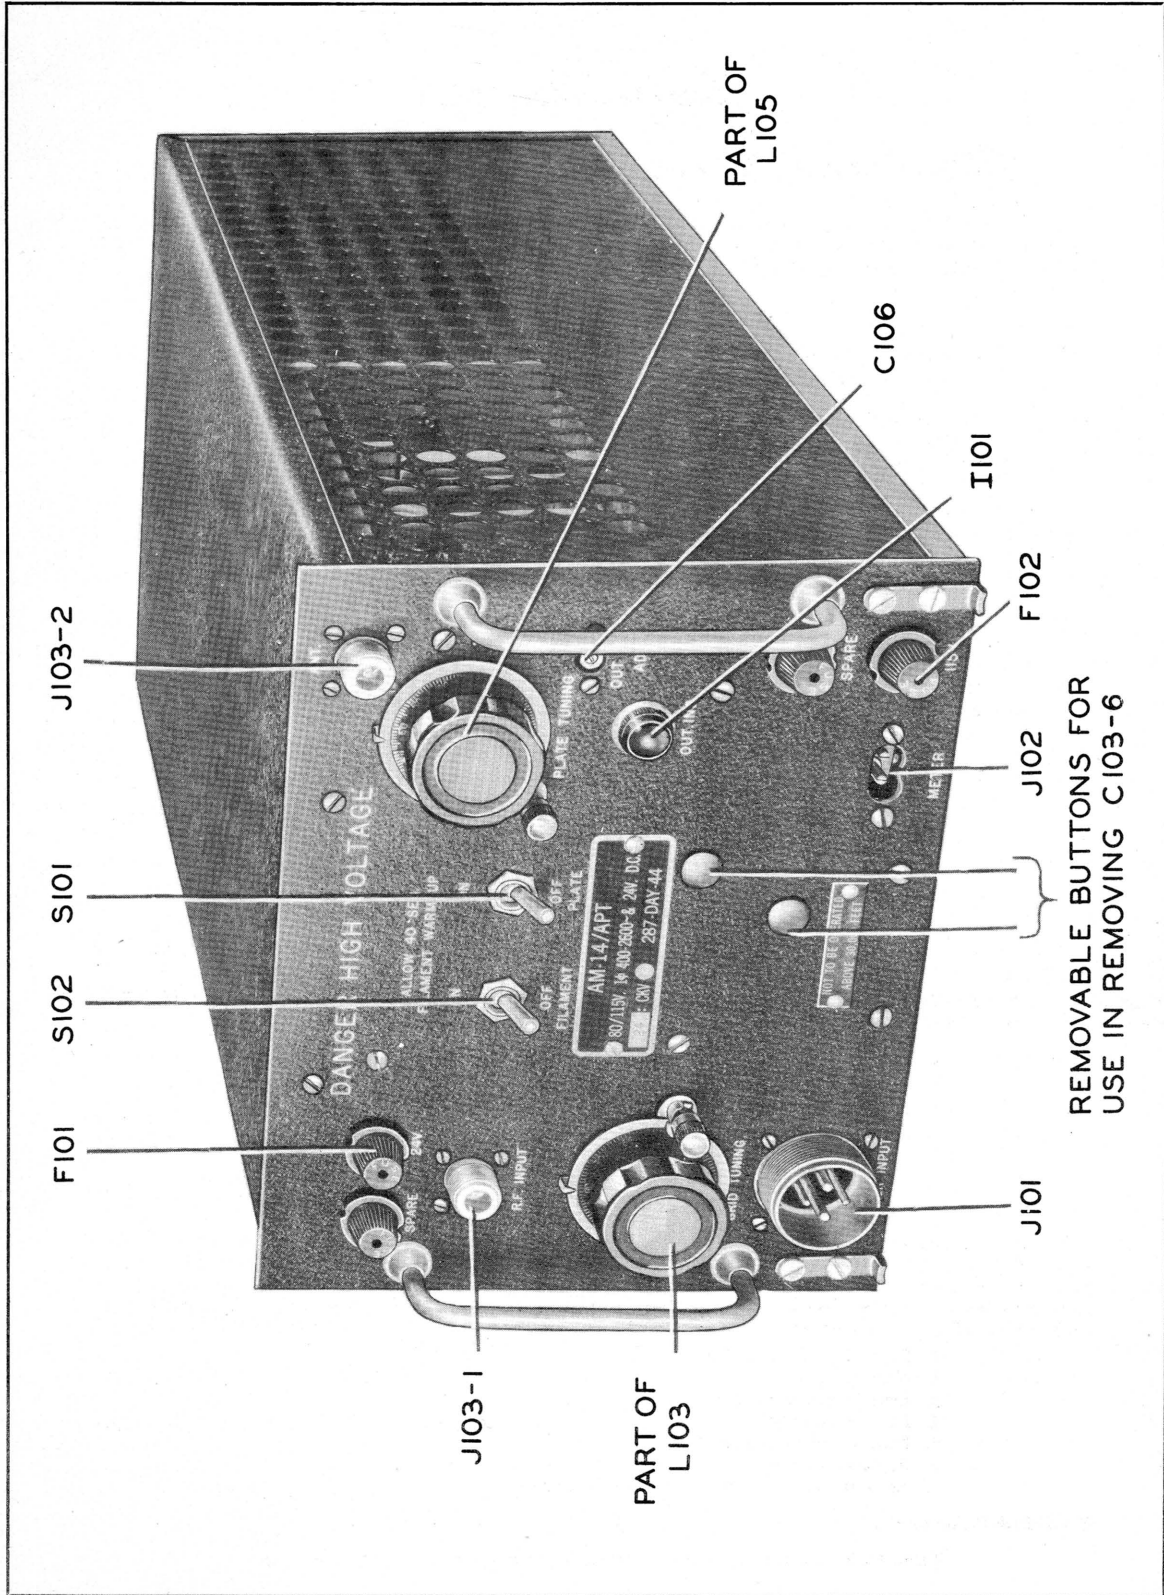

Figure 1-1 Radio Frequency Amplifier AM-14/APT—Exterior View
(1) Loosen the two hold-down thumbscrews at each side of the front which hold the amplifier to the mounting. (See fig. 1-1.)
(2) Remove the two screws at the top of the front panel. (See fig. 1-1.)
(3) Loosen the Dzus fastener at the rear.
(4) Withdraw the amplifier with the handles.
(1) Power Plug AN 3108-22-4S.
(3) 10-ampere "115V" fuse and 1-ampere "24V" fuse and one "SPARE" for each. (See fig. 1-1.)
(4) "OUT. IND." pilot lamp. (See fig. 1-1.)
(5) Safety wire on hold-down screws.